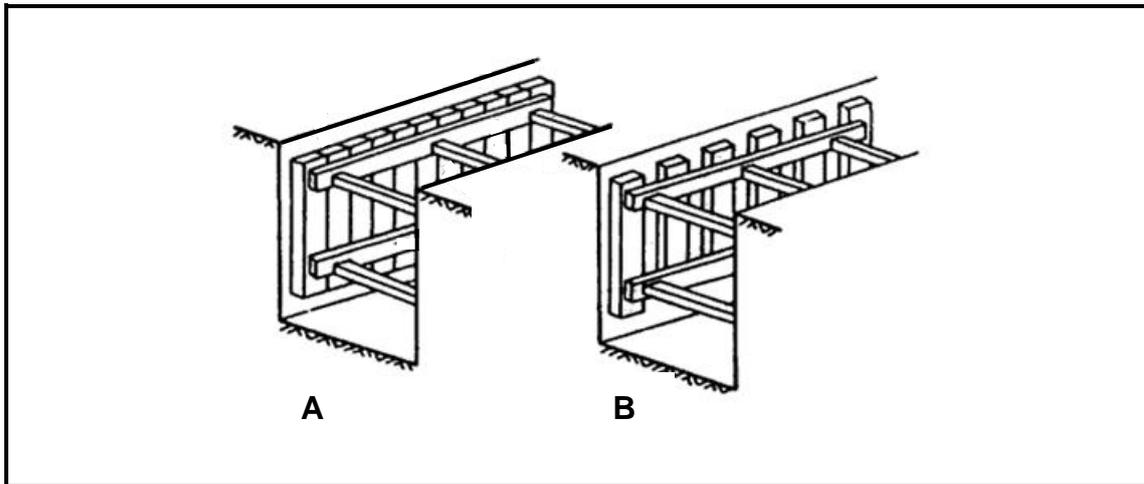

FIGURE 3.4
3.4 FIGURE 3.4 below shows TWO different types of shoring/shuttering.